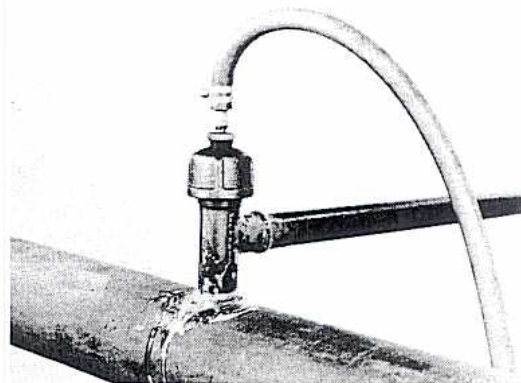

FIGURE 7
2. Apply air pressure and test for leaks with soapsuds (add glycerin in freezing weather) or bubble type leak detection fluid. FIGURE 7.